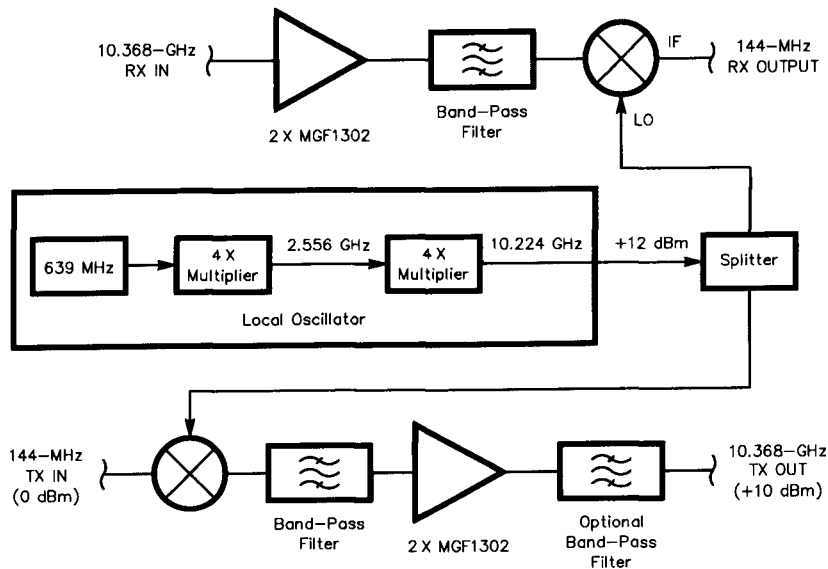

Fig 1—Block diagram of the 10-GHz transverter.
Fig 1 and Table 1 show the transverter's configuration and measured performance. A local oscillator (LO) feeds a power splitter that drives a pair of mixers. One mixer is used on transmit and the other on receive. The transmit mixer is followed by a filter and amplifiers. A filter following the final stage is optional. Low-noise amplifiers and an image-stripping filter precede the receive mixer. Without adequate image rejection, the receiver sensitivity can degrade by as much as 3 dB.